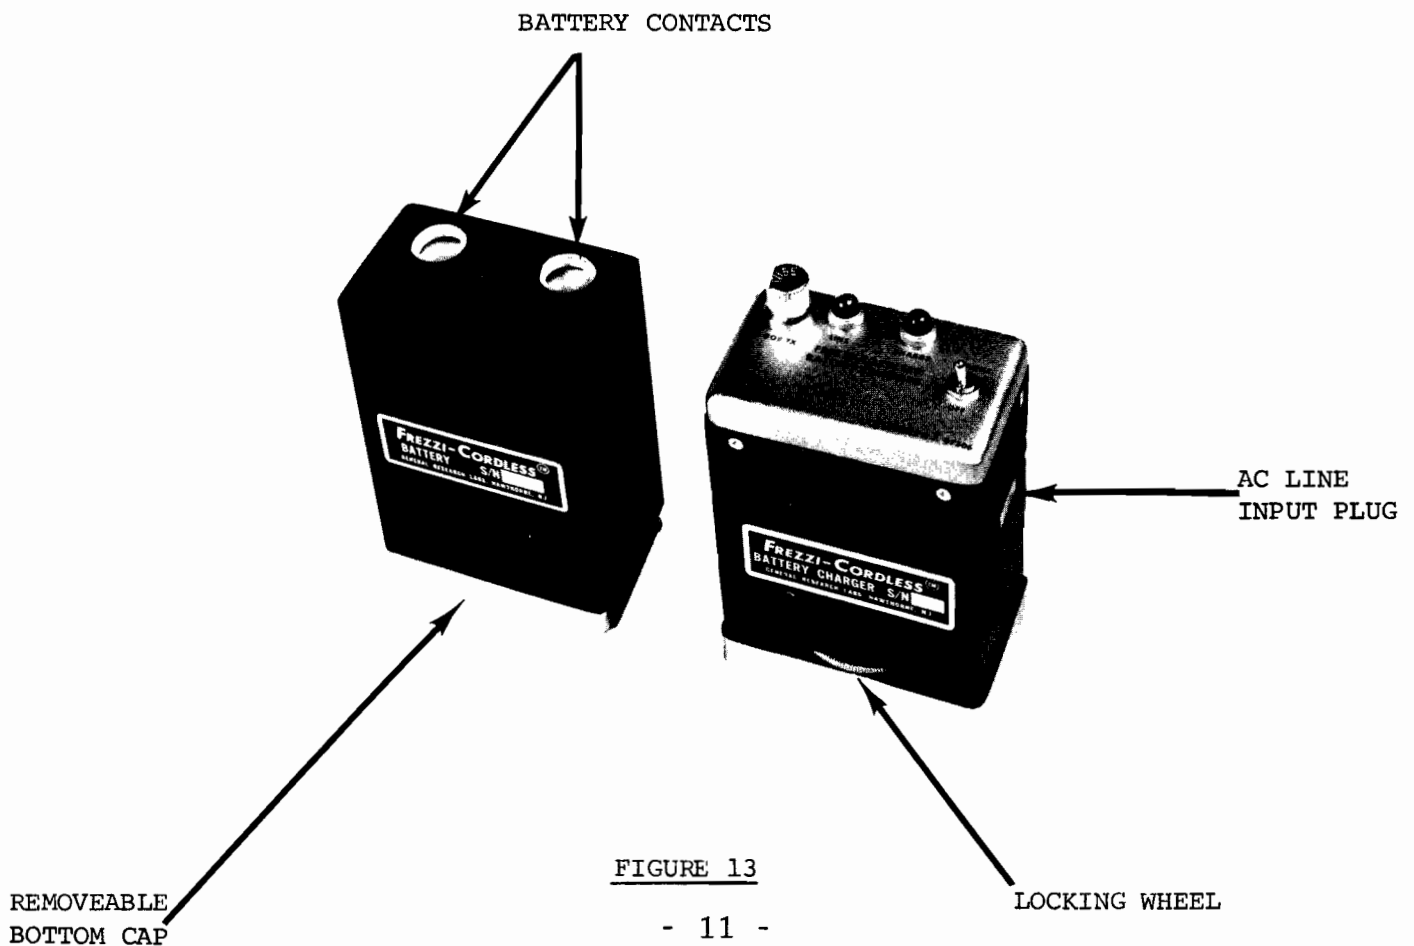

FIGURE 14
- a) Mount the charger to the battery and secure the charger by rotating the thumb wheel clockwise. See Figure 14.